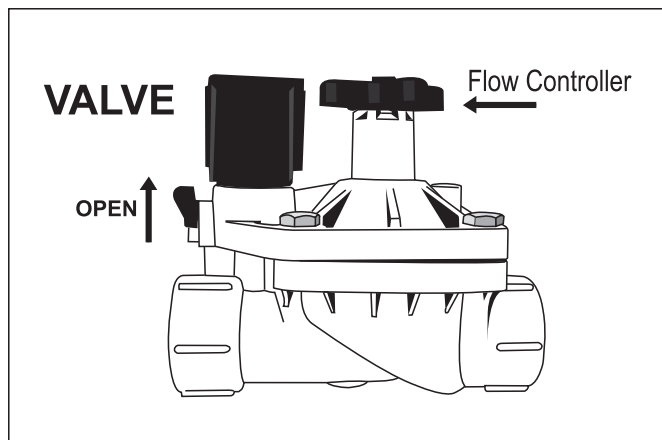

Figure 10. Valve Flow Controller
3. Turn the flow control knob (+) on the top of the valve (See Figure 10) to set the flow rate to your specifications. (The rate can be set up to 30 GPM.)